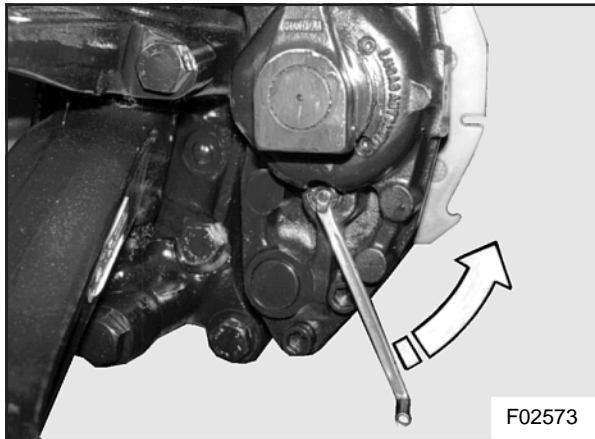

Figure 1 : Turning the adjuster stem in the direction opposite the direction of operating lever movement.
2. Turn the adjuster stem in the direction opposite the direction of movement of the operating lever during brake application, until both pads are in contact with the disc (see Figure 1). When the pads contact the disc, the effort to rotate the adjusting stem will increase. Do not exceed a torque of  $6 \pm 2$  ft.lbf. to avoid damage to the hexagon end. The adjuster stem should then be turned back  $\frac{1}{2}$  to  $\frac{3}{4}$  of a revolution to achieve the necessary lining-to-disc clearance.